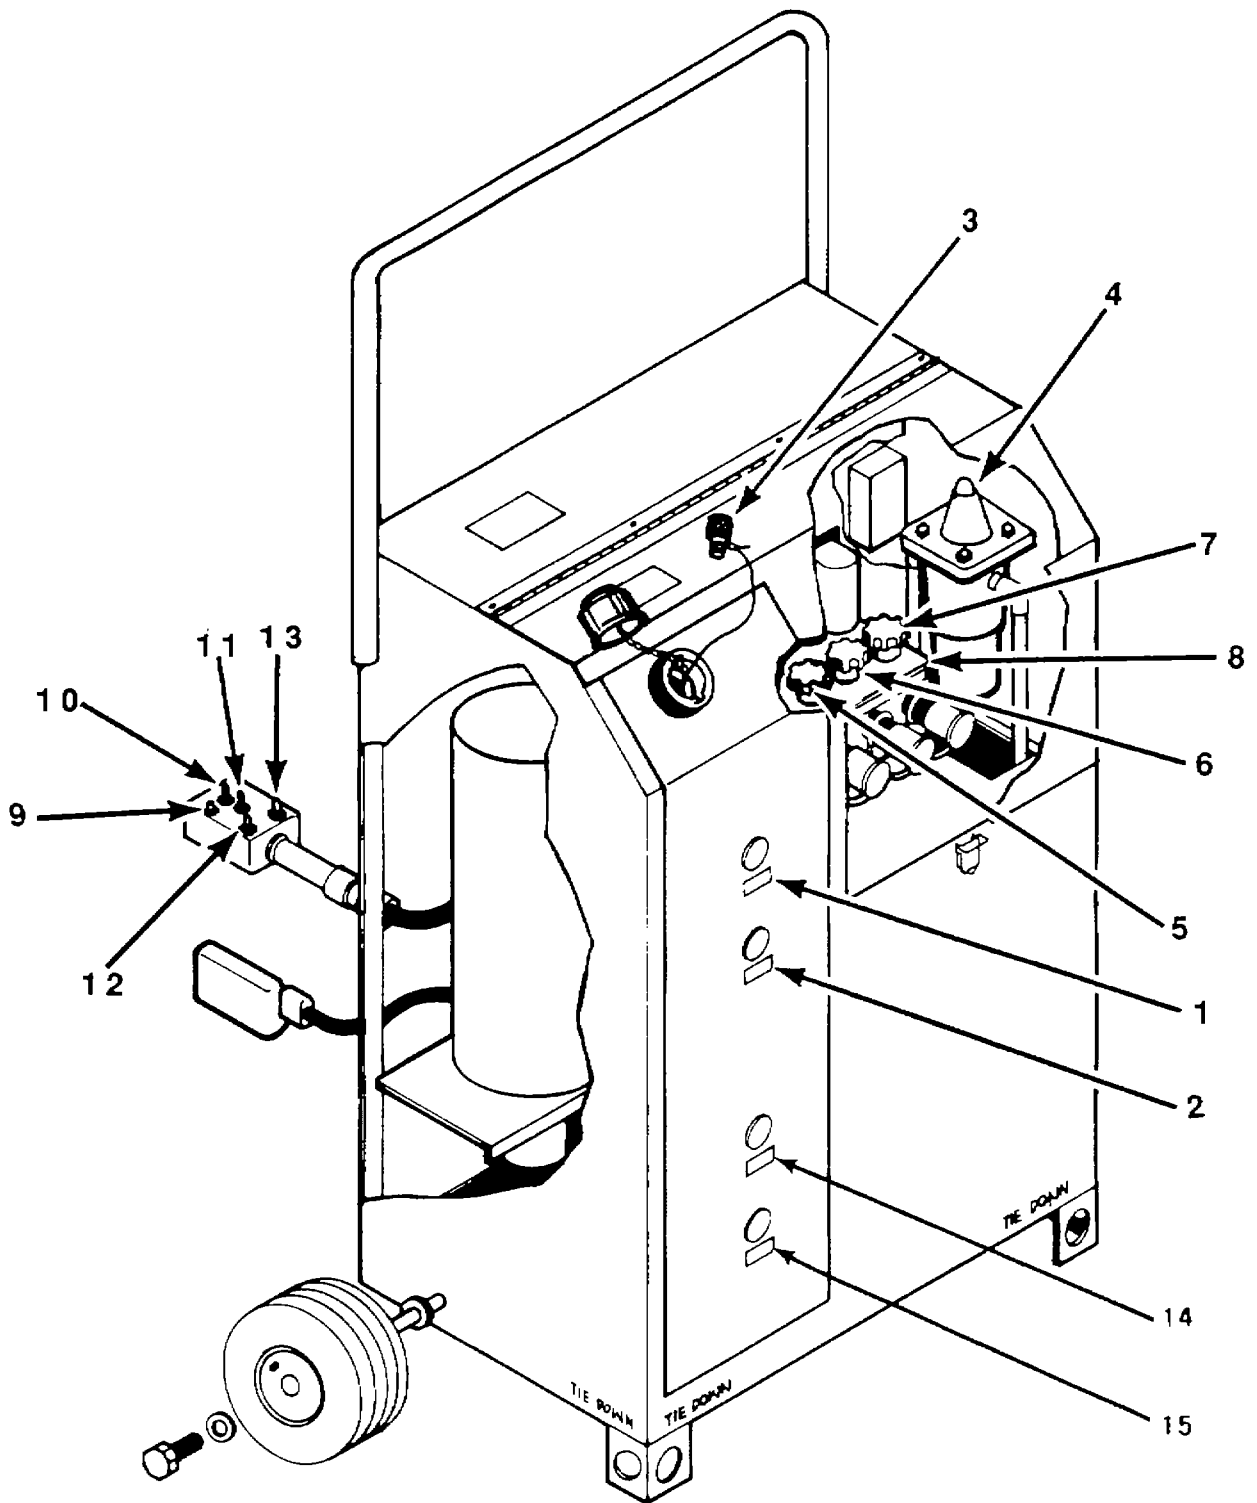

Figure 2-1. Controls and Indicators
2-1. Controls and Indicators. Controls and indicators for operation and monitoring of the hydraulic kneeling/erecting cart are located on the front side of the cart and on the controller which is stowed inside the cabinet. All controls and indicators are identified in Table 2-1 and located on Figure 2-1.
5. Remove controller from cabinet and ensure pump switch S4 (10, Figure 2-1) is in OFF position.
7. Set pump switch S4 (10) to ON.
9. Set pump switch S4 (10) to OFF.
4. Remove controller from cabinet and ensure pump switch S4 (10, Figure 2-1) is in OFF position.
6. Ensure POWER ON indicating light (9) is on.
7. Open hydraulic fluid filler cap on reservoir. Remove bleed adapter (3) from it.
8. Install bleed adapter (3) into the left hydraulic hose strut connector.
9. Point and hold connector with bleed adapter (3) installed into the filler cavity.
10. Ensure left manual flow regulator (6) is in open position (turn counterclockwise).
11. Set pump switch S4 (10) to ON. Move left switch S1 (12) to RAISE and hold. Observe for fluid flow. When fluid flows without air bubbles, release S1. Set pump switch S4 to OFF. Remove bleed adapter (3) from hose.
12. Install bleed adapter (3) into the right hydraulic hose strut connector.
14. Ensure right manual flow regulator (7) is in open position (turn counterclockwise).
2. Remove controller from cabinet and set pump switch S4 (10, Figure 2-1) to OFF position.
4. Ensure POWER ON indicating light (9) is on. Set pump switch S4 (10) to ON position.
7. Observe pressure reading on pressure gage (8). It should not exceed 3,000 psig.